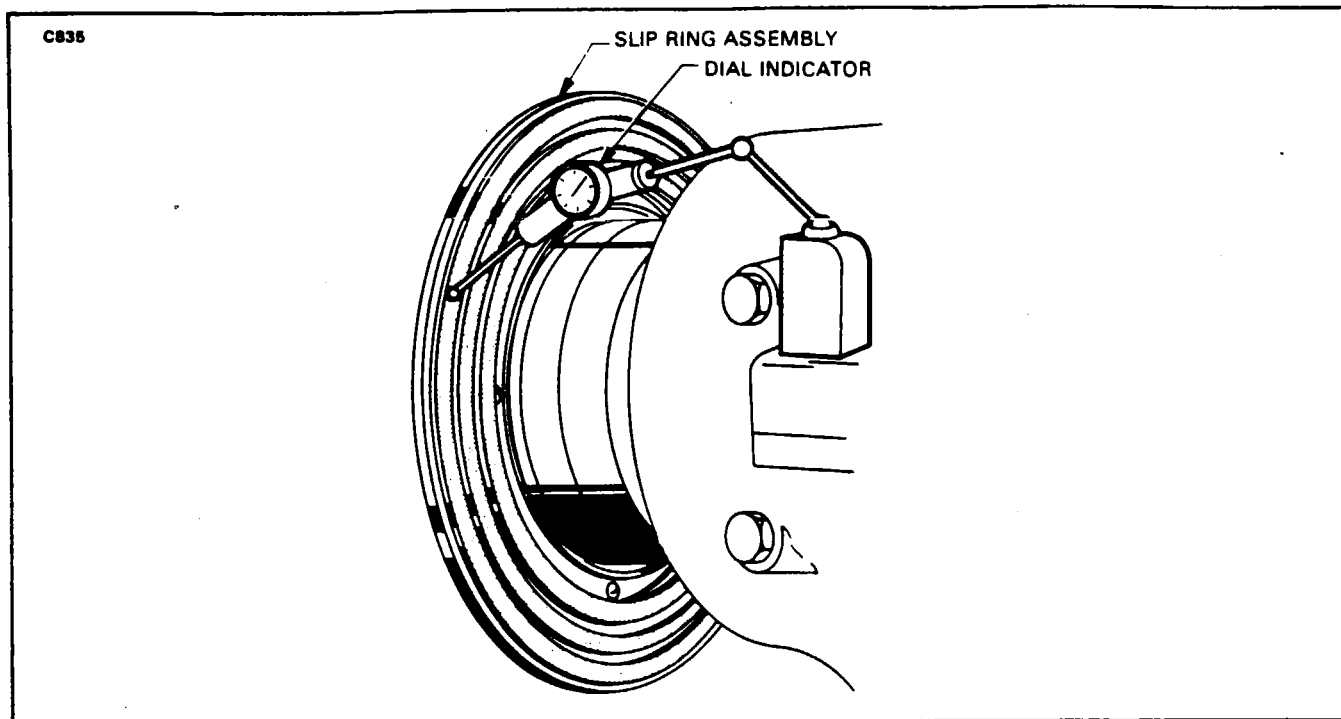

Figure 30-16. Typical Use of Dial Indicator
- B. If uneven wear is found or if wobble is noticed, set up dial indicator as shown in Figure 30-16 to check alignment of slip rings to propeller shaft.